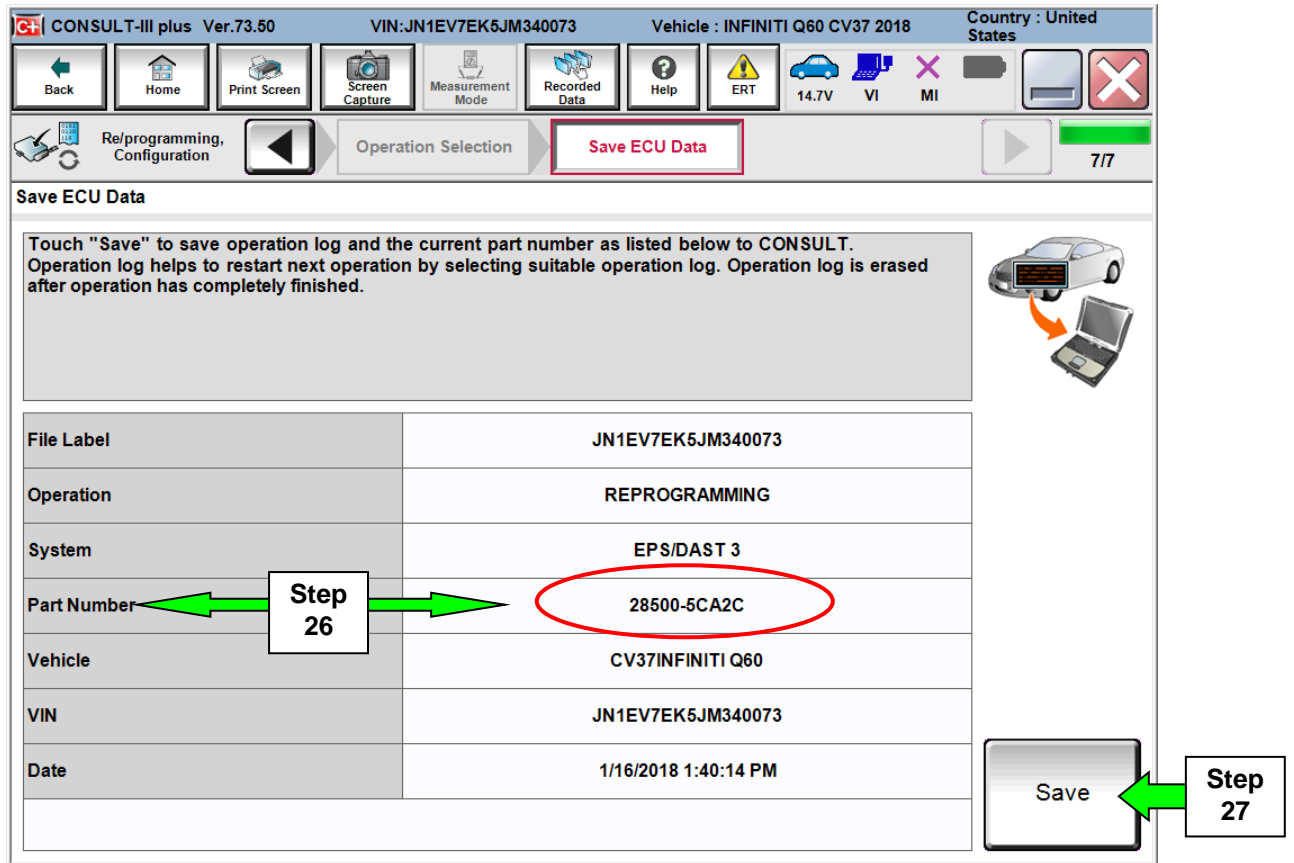

Figure 15
26. When you get to the screen shown in Figure 15, confirm this bulletin applies as follows: